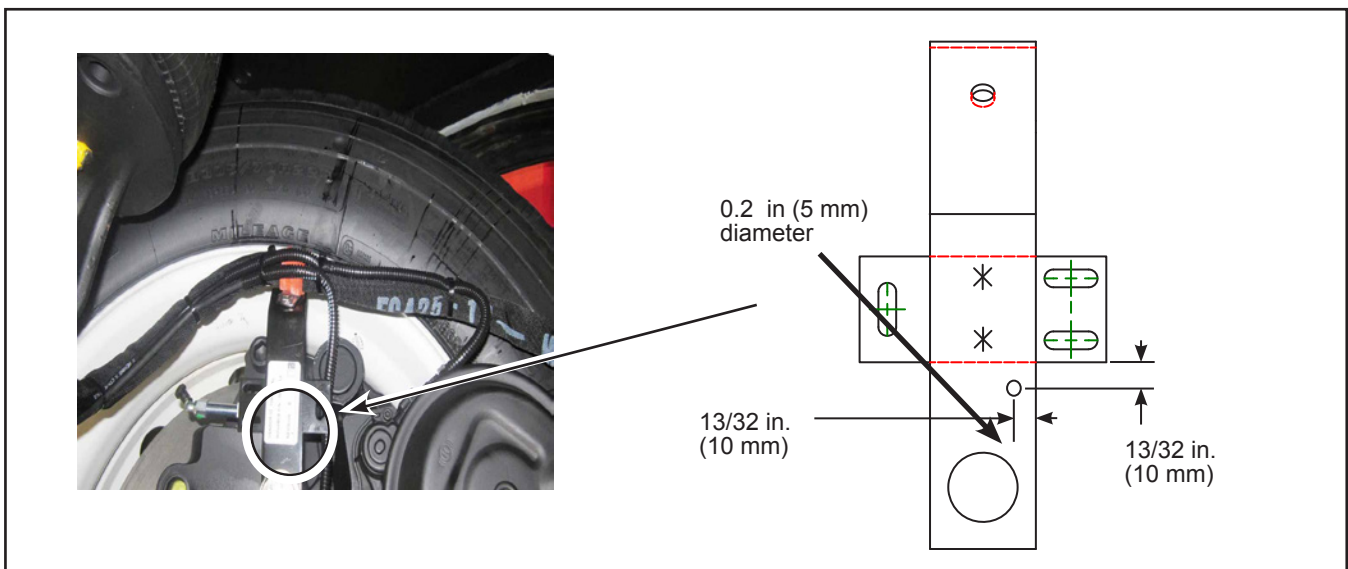

Figure 13 - Drilling of N20455-2 Support
2.16. Drill a 0.20 in. (5 mm) diameter hole in the N20455-2. See Figure 13.